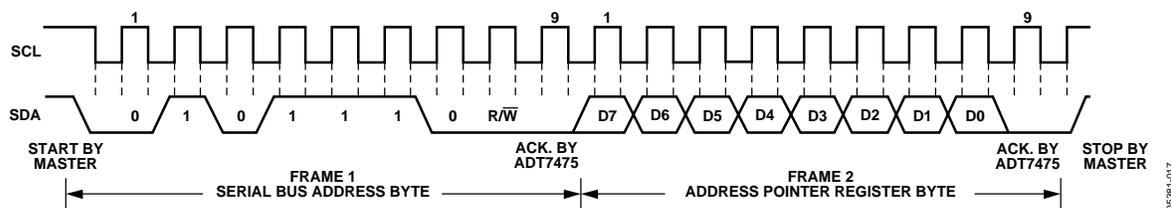

Figure 15. Writing to the Address Pointer Register Only
- If the ADT7475's address pointer register value is unknown or not the desired value, it must first be set to the correct value before data can be read from the desired data register. This is done by performing a write to the ADT7475 as before, but only the data byte containing the register address is sent, because no data is written to the register. This is shown in Figure 15.